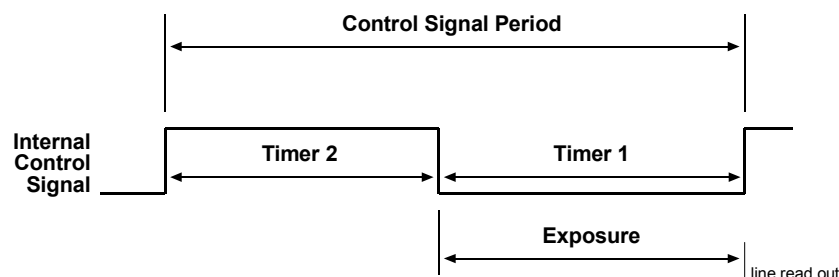

Figure 3-7: Free-run, Programmable Mode
- In **free-run, programmable mode**, the pixels are exposed and charge is accumulated when the internal control signal is low. The line is read out and transferred on the rising edge of internal control signal. See Figure 3-7.